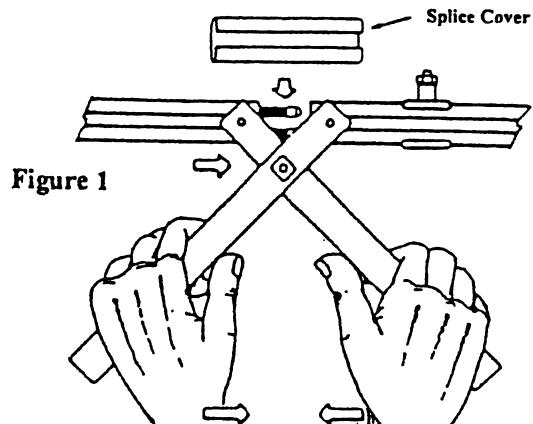

Figure 1
Step 3 - Joining Conductor Bar Sections (Figure 1)